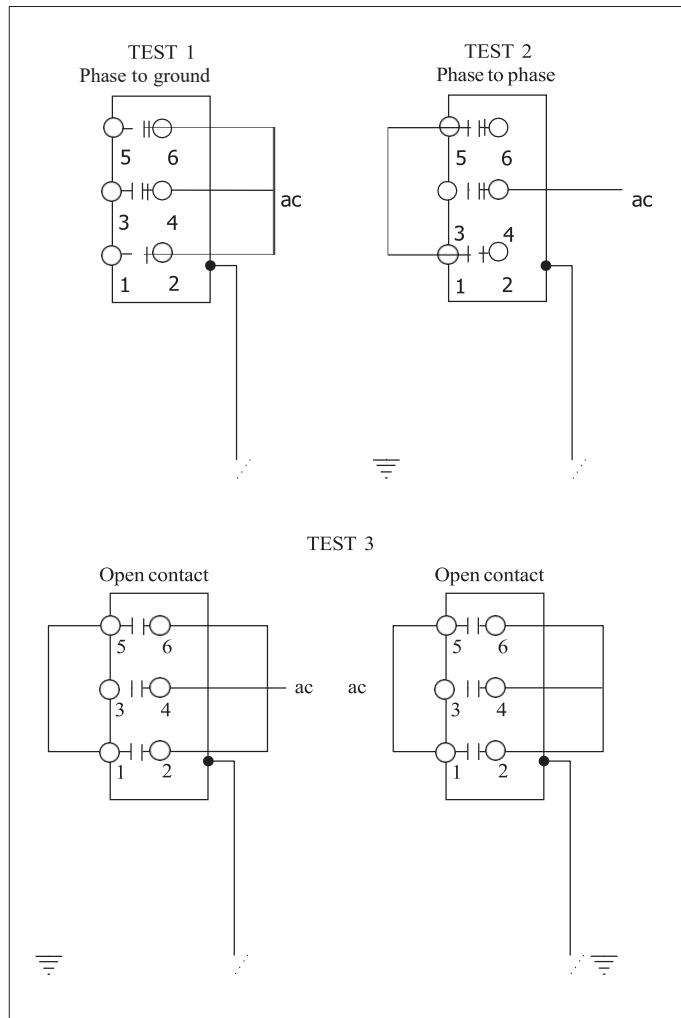

Figure 20.
<p>Use the following procedures to perform high-potential withstand tests at 80% of the rated power-frequency withstand voltage for 60 seconds. See Table 10 for test voltages and Figure 20 for test connection diagrams.</p> <p>Test results for NOVAi reclosers equipped with the internal voltage sensing option will be influenced by the source-to-ground connected sensing resistor, especially if DC high-potential testing is performed.</p>
3. Connect terminals 2, 4, and 6 (see Figure 20) together.
3. Connect and ground terminals 1, 3, and 5 (see Figure 20).